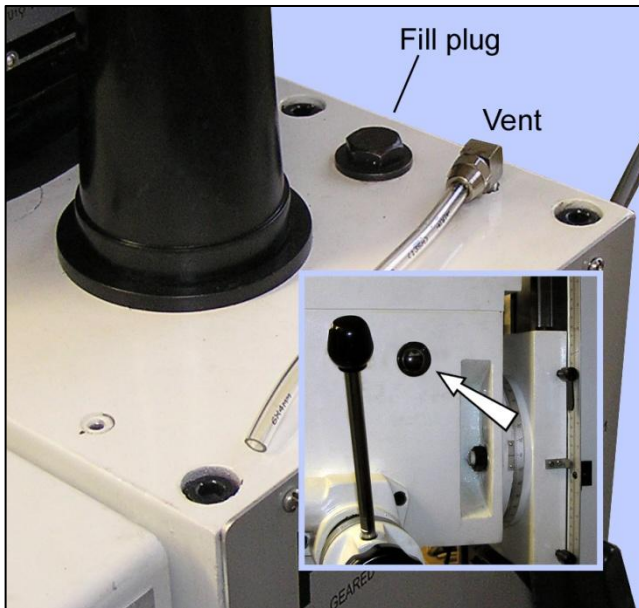

Figure 3-2 Gearbox fill plug and sight glass (inset)
6. Remove the fill plug, Figure 3-2, then add just a few ounces of oil.